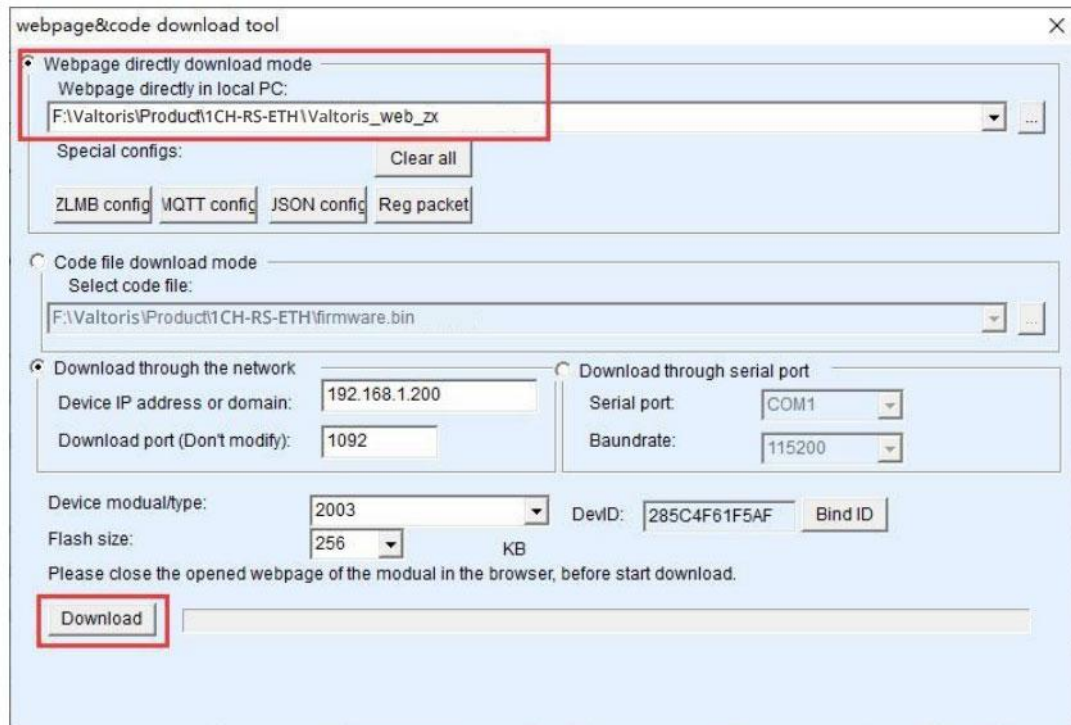

Figure 48 2/4/8 CH-RS485-ETH web upgrade method
6. Web configuration interface update: After firmware upgrade, the internal configuration web page of the module also needs to be updated, otherwise it will no longer be able to configure via Web, but it will not affect communication. It is not necessary to download the web page if there is no need for web configuration. The way to download the Web is: as shown in Figure 48, change the "program file" download